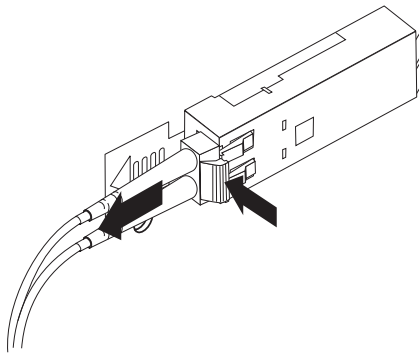

Figure 31. Removing the LC-LC Fibre Channel cable
2. While pressing down the cable lever, carefully pull the connector to remove the cable from the SFP module, as shown in Figure 31.